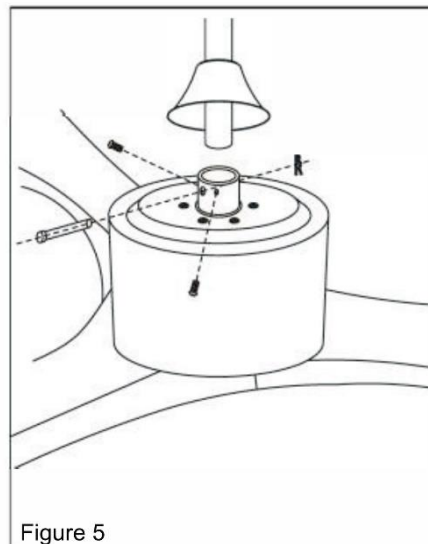

Figure 5
5.Loosen two set screws on the downrod support and then place the downrod into the downrod support.(Figure 5).